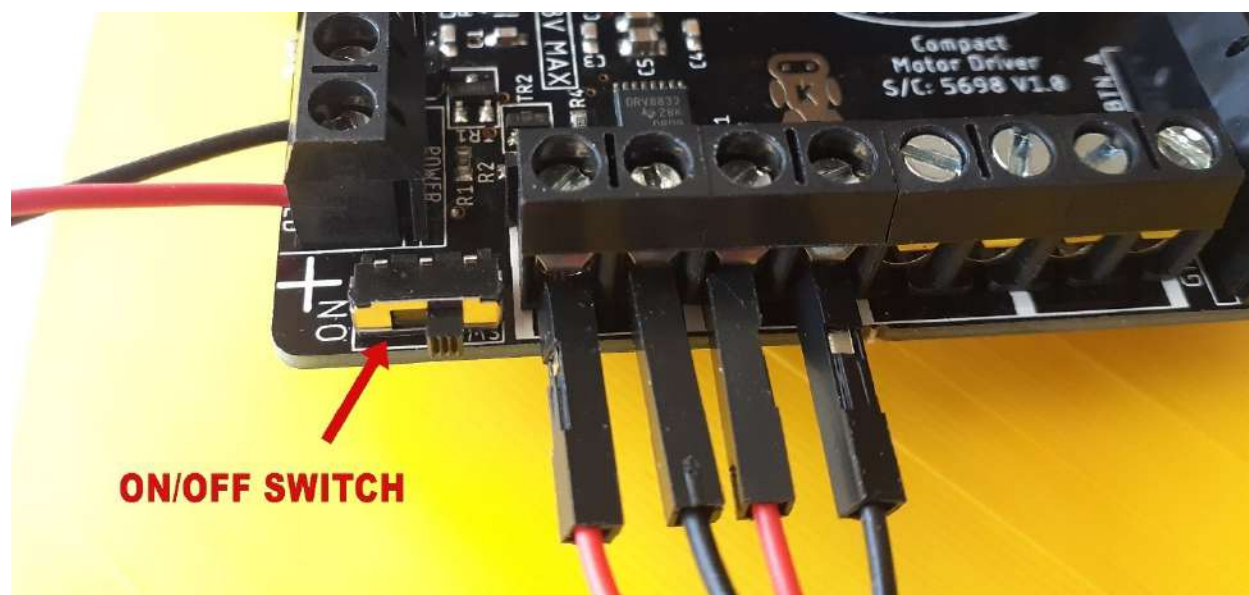

Figure 24: The on/off switch
**Note 2:** To conserve power, the Compact motor driver has an on/off switch (Figure 24). When you are ready to set the car in motion, make sure the switch is on.